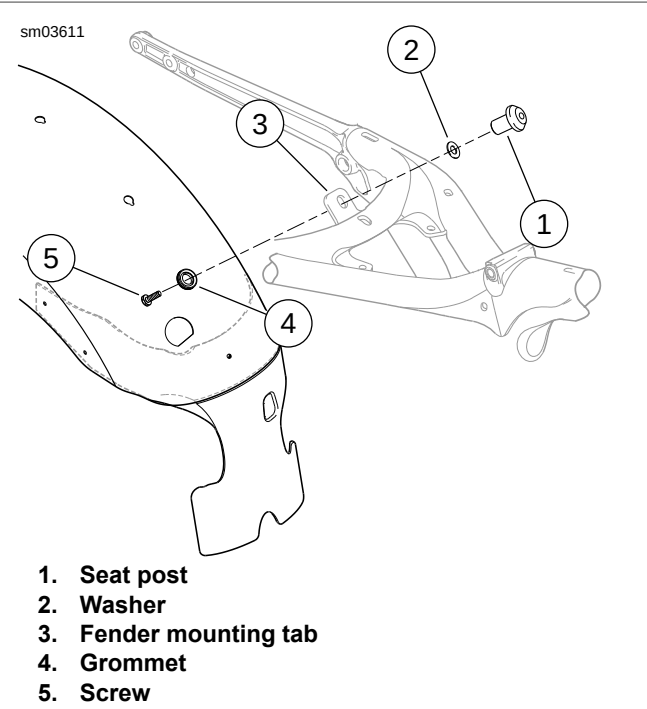

Figure 2-211. Seat Post/Rear Fender Mount Hardware
17. Have an assistant hold rear fender in place. See Figure 2-211. Remove seat post (1), washer (2) and screw (5). Remove rear fender from vehicle, being careful not to damage paint. Lay rear fender on a soft, clean surface.
4. See Figure 2-211. With assistant holding rear fender in place, install screw (5) through fender and frame tab. Install washer (2) on screw. Thread seat post (1) onto screw. Finger-tighten seat post.
- a. See Figure 2-211. Tighten screw (5) and seat post (1) to 96-156 **in-lbs** (10.9-17.6 Nm).